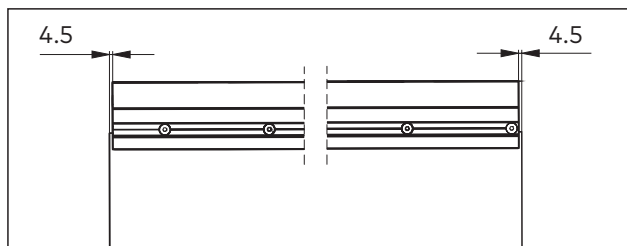

Fig. 19 Aligning the top door rail
7. Align the top door rail with a distance of 4.5 mm (Fig. 19).
2. Align the top door rail with a distance of 4.5 mm (Fig. 19).